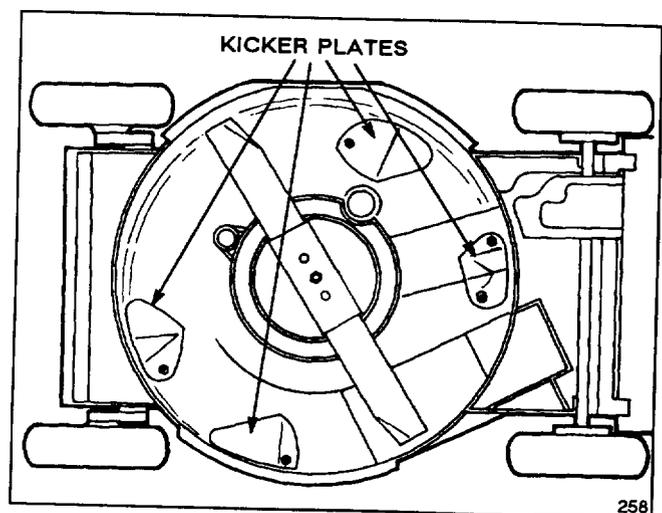

Figure 9
- Four special "kicker plates" positioned on the underside of the mower deck in strategic positions (Fig. 9)